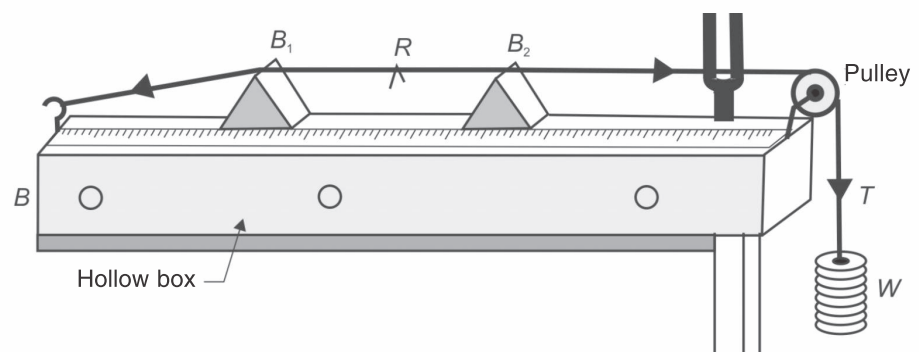

Fig. 4.1: Experimental arrangement for setting up stationary waves in a sonometer wire.
You have learnt about a sonometer in Unit 4 of the theory course CLT-104. Now, observe the sonometer in the physics laboratory and note its important components by comparing it with Fig. 4.1.
3. Keep about 20 cm distance between the two bridges. Now make a V-shaped light paper rider R (Fig. 4.1) and place it on the string mid-way between the bridges.